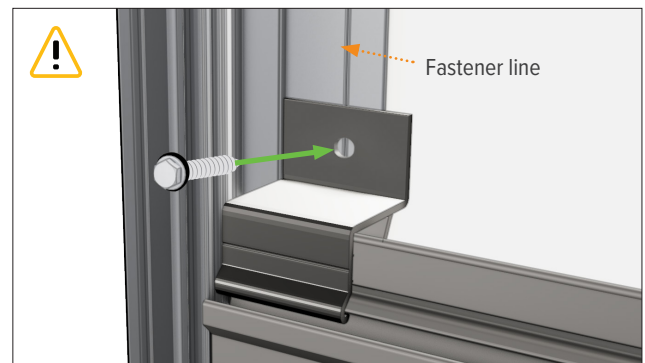

Figure 20.5
24. At each end of the Plank fasten a Plank Clip into the fastener line of the intersecting trim except with Inside Corners. (Figure 20.5)
Clips must be fastened onto the fastener line at both ends of the Plank except with inside corners. (Figure 20.5)